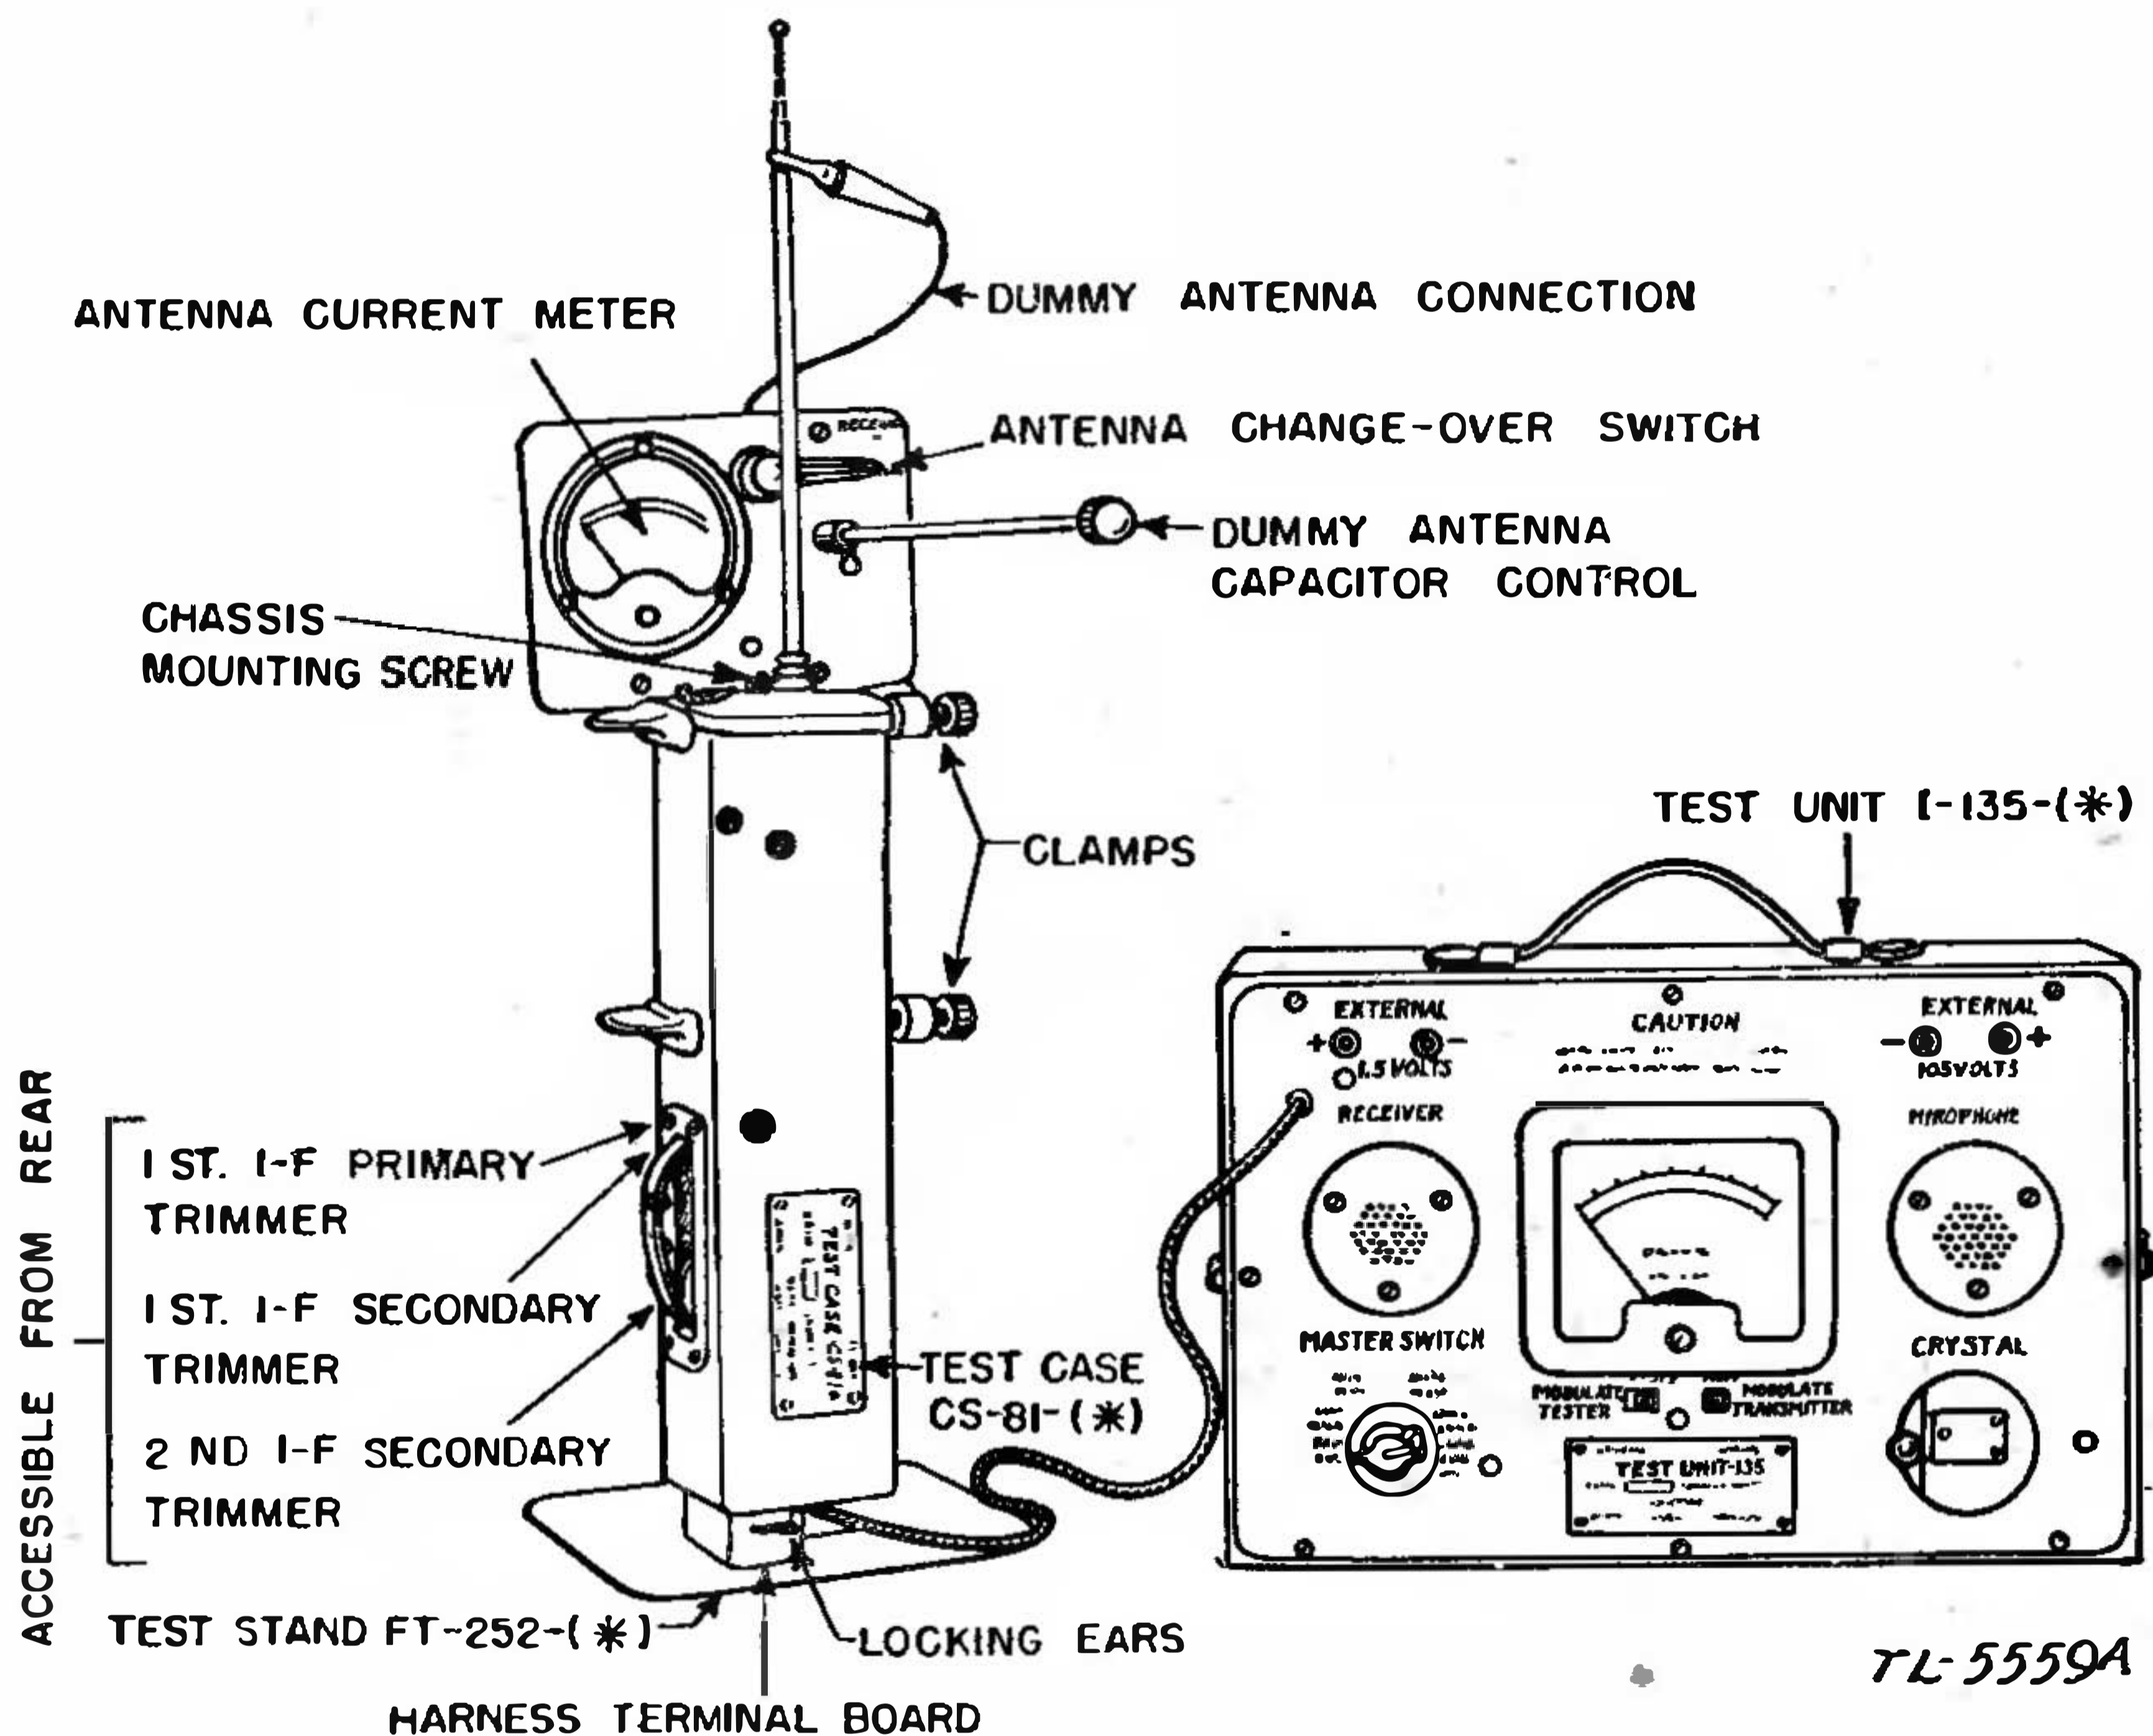

FIGURE 5.—Test equipment IE-17-(\* )—set up.
**51. Test case CS-81-(\*).**—As the tuning adjustments are inaccessible because of their location on the chassis, which is covered by the case or housing, a special housing is required to make these adjustments. (See fig. 5.) Test Case CS-81-(\*) is similar to the radio set housing except for the holes that have been provided to permit access to the chassis adjustments. This apparatus permits tuning the set under conditions identical to those of normal operation. The presetting adjustments should not be made on the set without the test case being around the chassis, because the set would become detuned when inserted into the regular housing. This detuning or misalinement would result from the additional capacitance introduced into the circuit by the housing.
c. Next, clamp test case CS-81-(\*) into test stand FT-252-(\*) with the antenna end up, and the housing in such position that the change-over switch is opposite the left side of the operator as he faces the stand. (See fig. 5.) The upper clamp should grip the housing on the edges of the top cover. The lower clamp should not be made too tight, as the pressure may crack the housing.
g. The location of the receiver tuning adjustments on the radio chassis are shown in figures 5 and 11. *With the insulated screw driver*, turn the *receiver antenna adjustment* screw clockwise. Notice the effect of this adjustment on the output meter reading. If the meter reading *increases*, continue to tighten the screw until a maximum reading is obtained. If the reading *decreases*, turn the screw counterclockwise until a maximum reading is obtained. Be careful
d. The transmitter is now ready for alinement. Turn the MASTER SWITCH on test unit to PWR. AMP. position. Adjust the *transmitter tank adjustment* screw for *minimum* current reading on the meter in the test unit. The normal reading in this position is approximately 7 milliamperes. See figures 5 and 12 for location of *transmitter tank adjustment*. *Be sure to depress the press-to-talk switch with one hand during this operation.*
*c.* With the MASTER SWITCH of the test unit on OUTPUT 60 V. A. C. (modulate tester switch ON), adjust the second i-f secondary trimmer for maximum output, next the first i-f secondary trimmer, and the first i-f primary trimmer last. (See fig. 5.) All i-f trimmers are adjusted for peak output meter reading. As the i-f trimmers are alined, loosen the signal coupling to the receiver antenna so the maximum audio output reading of the meter is not over 10 volts. This is necessary to prevent overloading the receiver and consequent poor alinement of the i-f circuits. The above alinement adjustments must be performed very carefully for good results. Go over the alinement a second time.